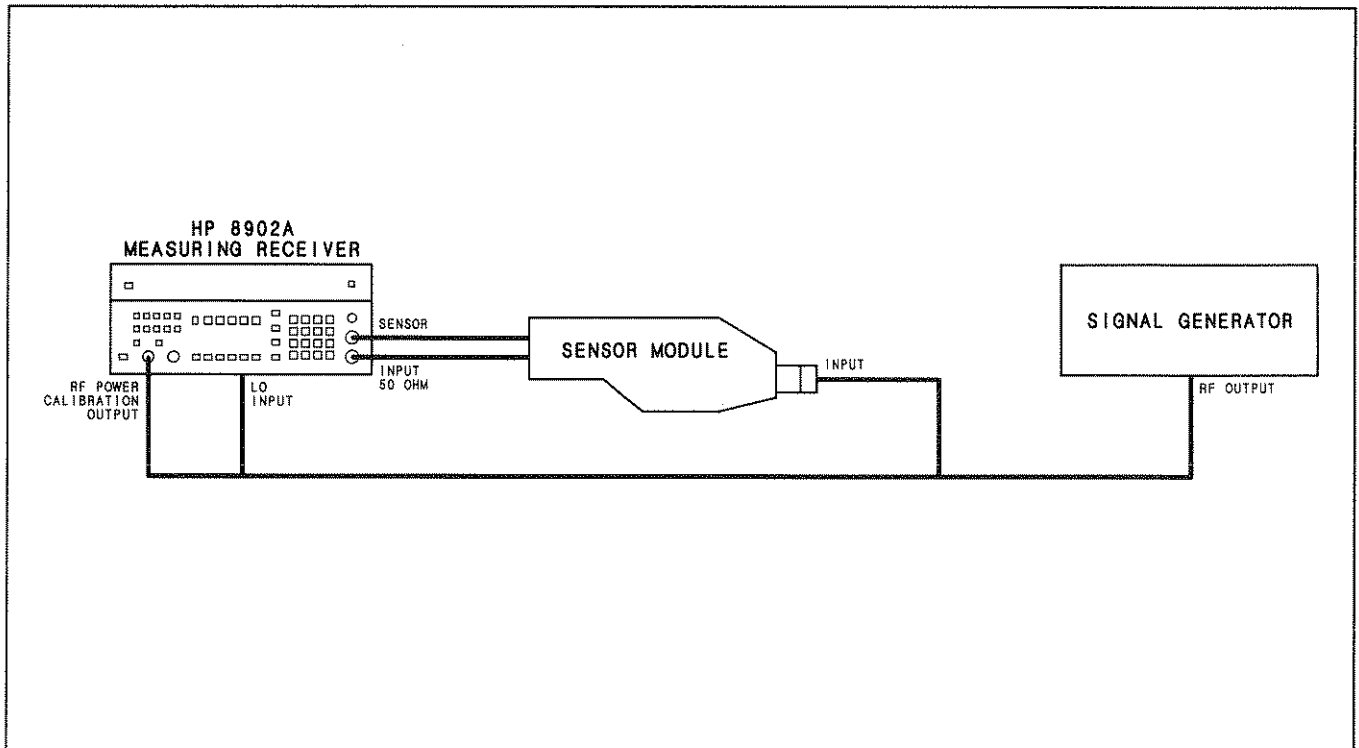

Figure 3-11. External Lo Check (Option 030) Setup
- Set the signal generator to 51.50 MHz CW at 0 dBm. Connect the signal generator's output to the rear-panel LO INPUT connector. Connect the sensor module's input to CALIBRATION RF POWER OUTPUT connector. (See Figure 3-11.)